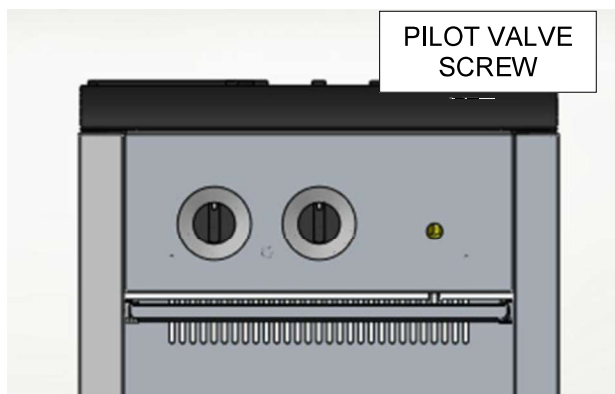
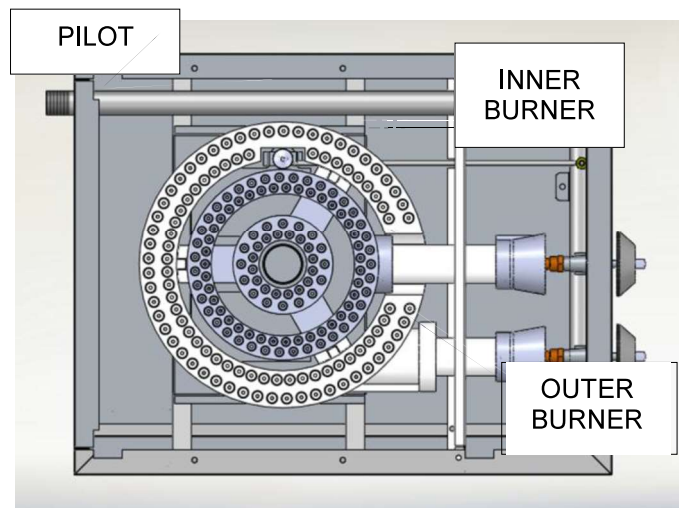

Fig.5
Fig.6
The burner is in two sections, controlled by two heavy duty infinite control valves. The center "Star" section (Fig.6) is on separate burner with an input of 40,000BTU/hr. It is controlled by the right burner valve knob. The outer circle of the burner (Fig. 6) is the other separate 40,000BTU/hr input burner, controlled by the left burner valve knob.
3. Light standing pilot with a lit taper (see Fig 6). Adjust pilot to  $\frac{1}{4}$ " high flame, if necessary, by turning pilot valve adjusting screw (see Fig. 5) counterclockwise to increase or clockwise to decrease flame.